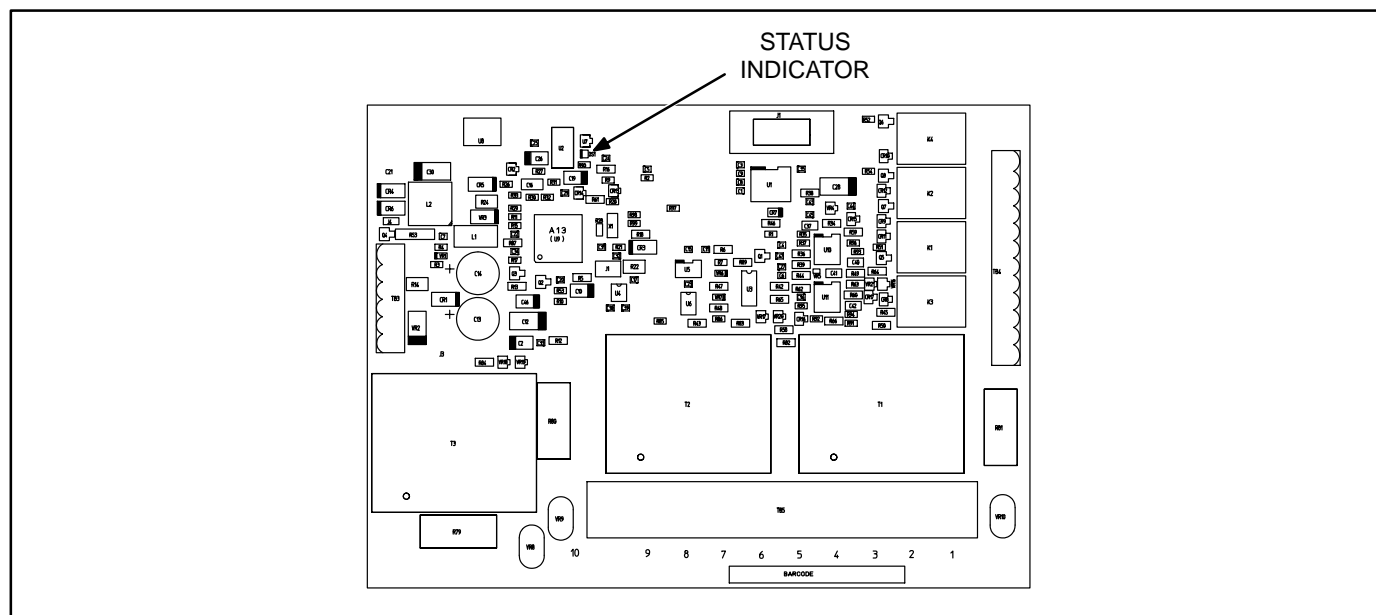

FIGURE 5-1. PTC STATUS LIGHT
1. Check for blinking light on the PTC module to indicate that it has power (Figure 5-1). If off, check for B+ between TB3-3 and TB3-4. Check PTC status voltage between TB3-5 and TB3-6, 0.2 VDC, if not present, see steps 2 and 3.